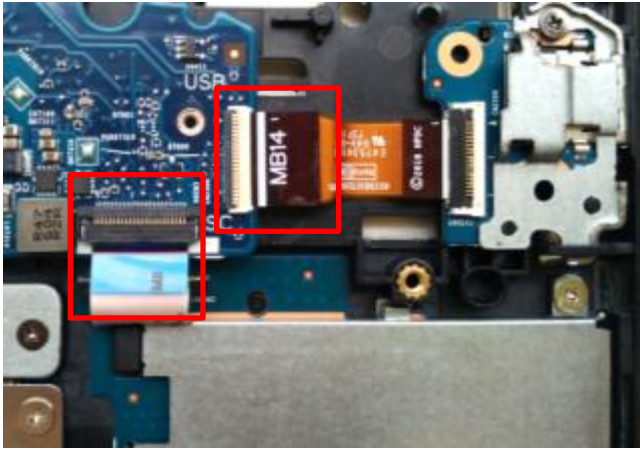

Fig.1
- 1.Disassemble Smart Card FFC & USB FPC, then remove USB/B from top case(Fig.1).